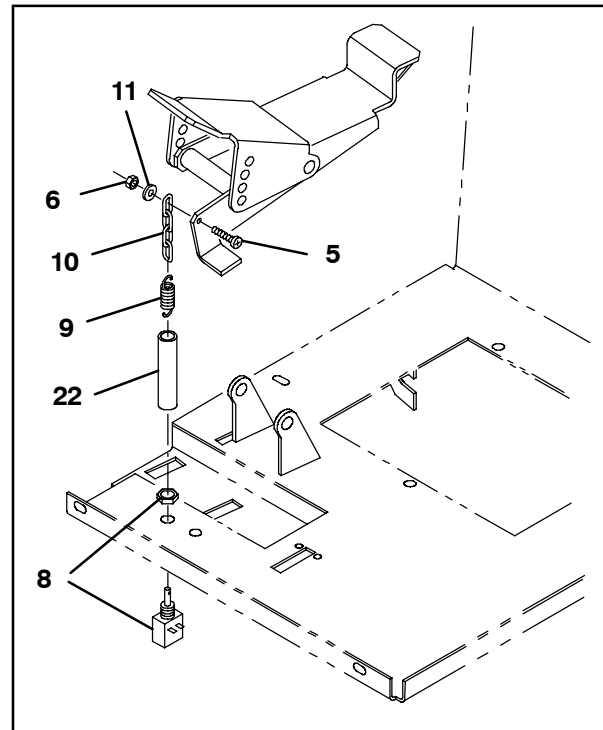

FIG. 10
24. Hook the spring (9) to the switch (8). Refer to Fig. 10.
NOTE: It is not necessary to remove the propel pedal to install items shown in Fig. 10. The exploded view is used to better illustrate how the parts are assembled.
25. Hook the chain (10) onto the other end of the spring (9). Refer to Fig. 10.
26. Slide the sleeve (22) onto the spring (9) and chain (10). Refer to Fig. 10.
27. Use a pan screw (5), a flat washer (11), and hex nut (6) to install the chain (10) onto the directional pedal. Refer to Fig. 10.